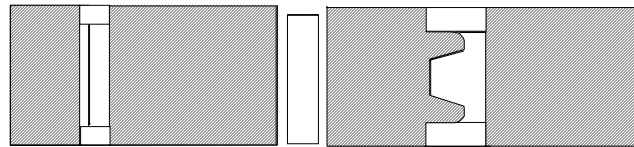

Figure 3-13. X-ray Top Sections
3.13 OPTIONAL X-RAY TOPS (FIGURES 3-13 AND 3-14)